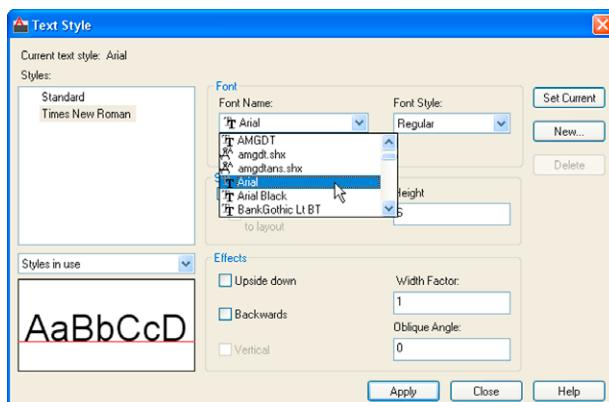

Fig. 4.8 The **Text Style** dialog
- The **Text style** dialog appears (Fig. 4.8). In the dialog, *enter 6* in the **Height** field. Then *left-click* on **Arial** in the **Font name** popup list. **Arial** font letters appear in the **Preview** area of the dialog.